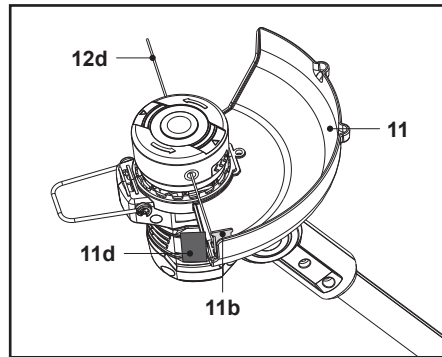

Fig. 13
The guard (11) protects the operator against thrown objects during operation. It is equipped with a knife (11b) that cuts the trimming line (12d) (Fig. 13).